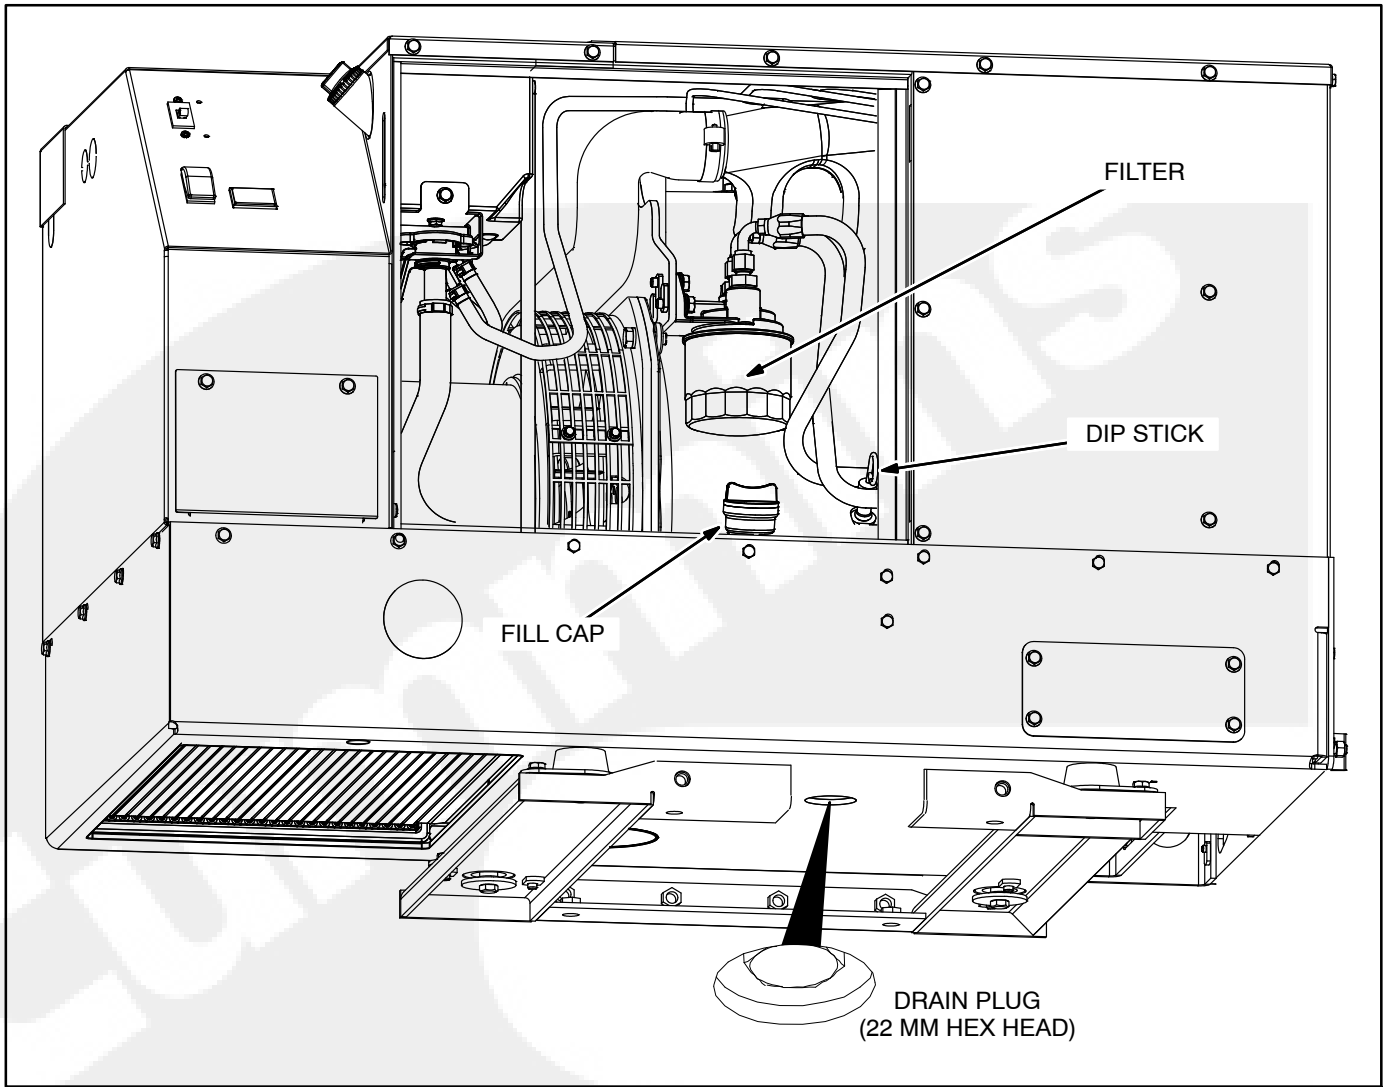

FIGURE 3-1. ENGINE OIL MAINTENANCE
Check engine oil level (Figure 3-1).
2. Pull out the oil dip stick, wipe it clean, reinsert it and pull it out again to check the oil level (Figure 3-1).
3. Place a pan large enough to hold the fuel oil capacity (Figure 3-1).